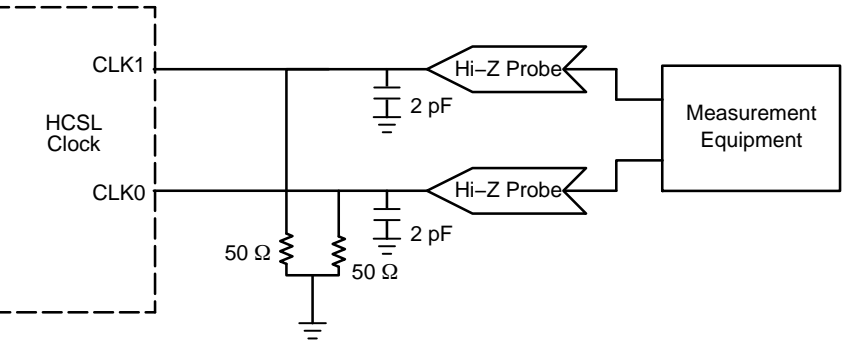

Figure 8. HCSL Parameter Measurement
- Measurement taken with outputs terminated with $R_S = 0 \Omega$, $R_L = 50 \Omega$, with test load capacitance of 2 pF. See Figure 8. Guaranteed by characterization.